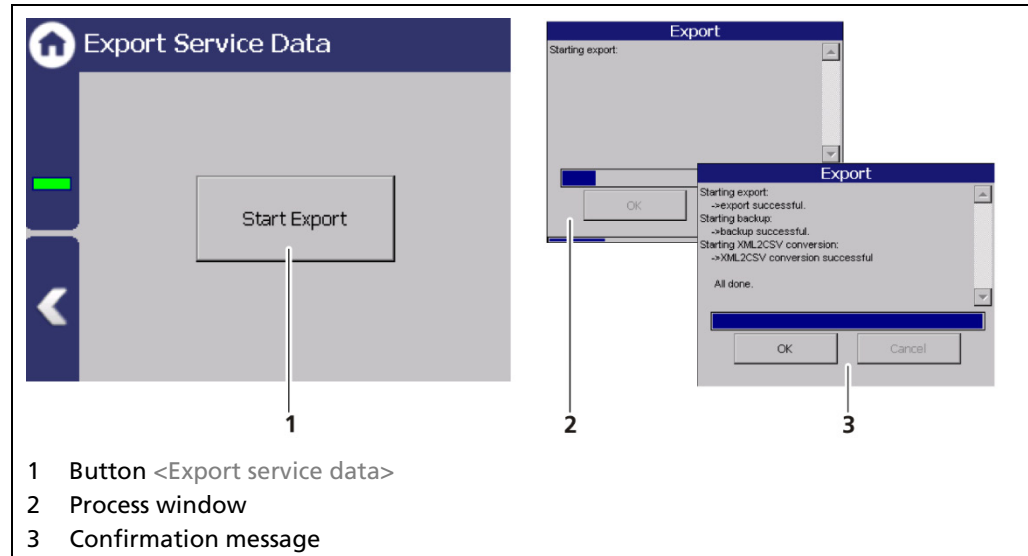

Fig. 144 Export Service Data
1. Click Stop if necessary. Click on the entry field "Logging interval" (Fig. 144, item 3) and enter an interval.
2. Start the network data log with the button <Start> (Fig. 144, item 1).
2. The USB storage device is recognized by the system after a few seconds and the button <Export service data> (Fig. 144, item 1) can be clicked.
3. Click on the button <Export service data> (Fig. 144, item 1).
- ▶ The process window is displayed and the export of service data will be carried out (Fig. 144, item 2).
- ▶ After successful export a confirmation message Fig. 144, item 3) is displayed.